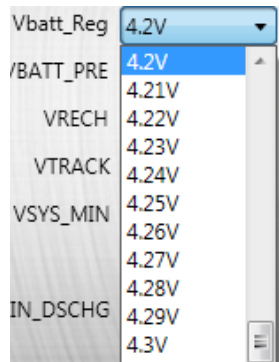

Figure 11: Charge-Full Voltage Setting
- Set the charge-full voltage (see Figure 11). The charge-full voltage ranges between 3.4V and 4.67V, and the default value is 4.2V.